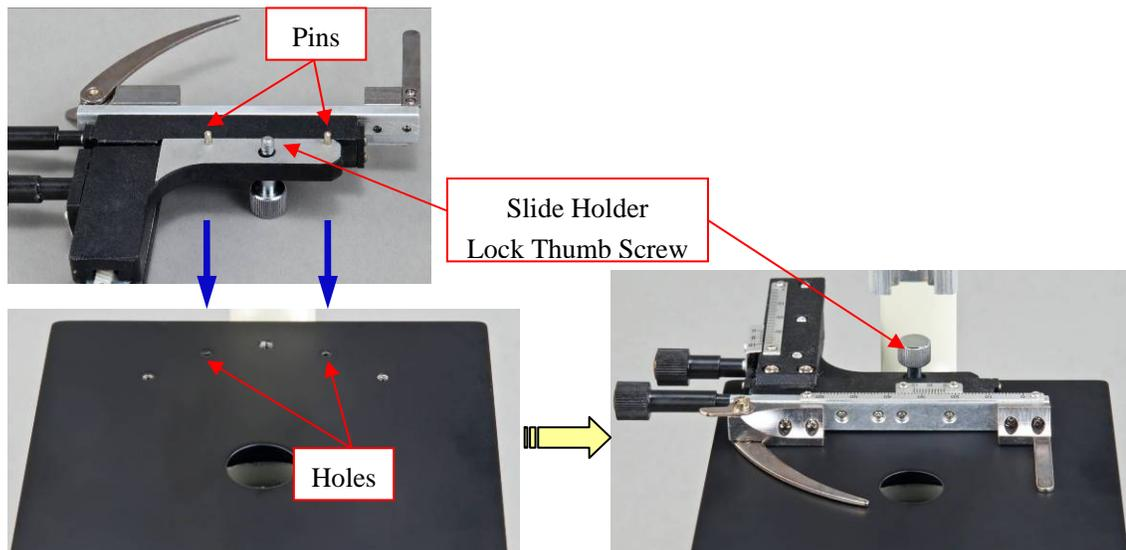

Fig. 1
- 3) Tighten the slide holder lock thumb screw (See **Fig. 1**).